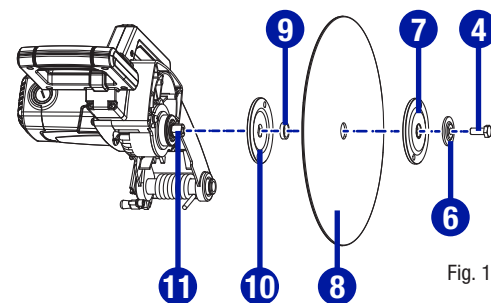

Fig. 18
inner flange (10) from the arbour (11). (Fig. 18)